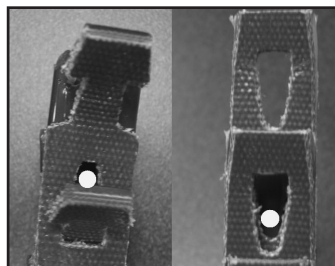

Fig. 2
- 5 Insert the $\frac{1}{8}$ " carbide bit into the high speed rotary tool and drill a pilot hole into the cushion portion of the belt. Start the hole from the link side of the belt, making sure the hole is centered in the cushion top. Use the same bit to clean out the hole from the cushion top side. Repeat on second endpiece. See Figures 2 and 3.